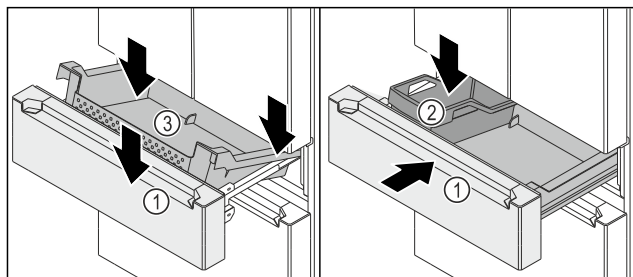

Fig. 157
- ❑ The pull-out cart *Fig. 157 (1)* is pulled out.
- Place the container *Fig. 157 (3)* to the back on the right and left rails.
- Lower the container *Fig. 157 (3)* at the front so that the container *Fig. 157 (3)* encloses the rails on the right and left.
- Insert the FlexBox *Fig. 157 (2)*.
- Push in *Fig. 157 (1)* the pull-out cart.